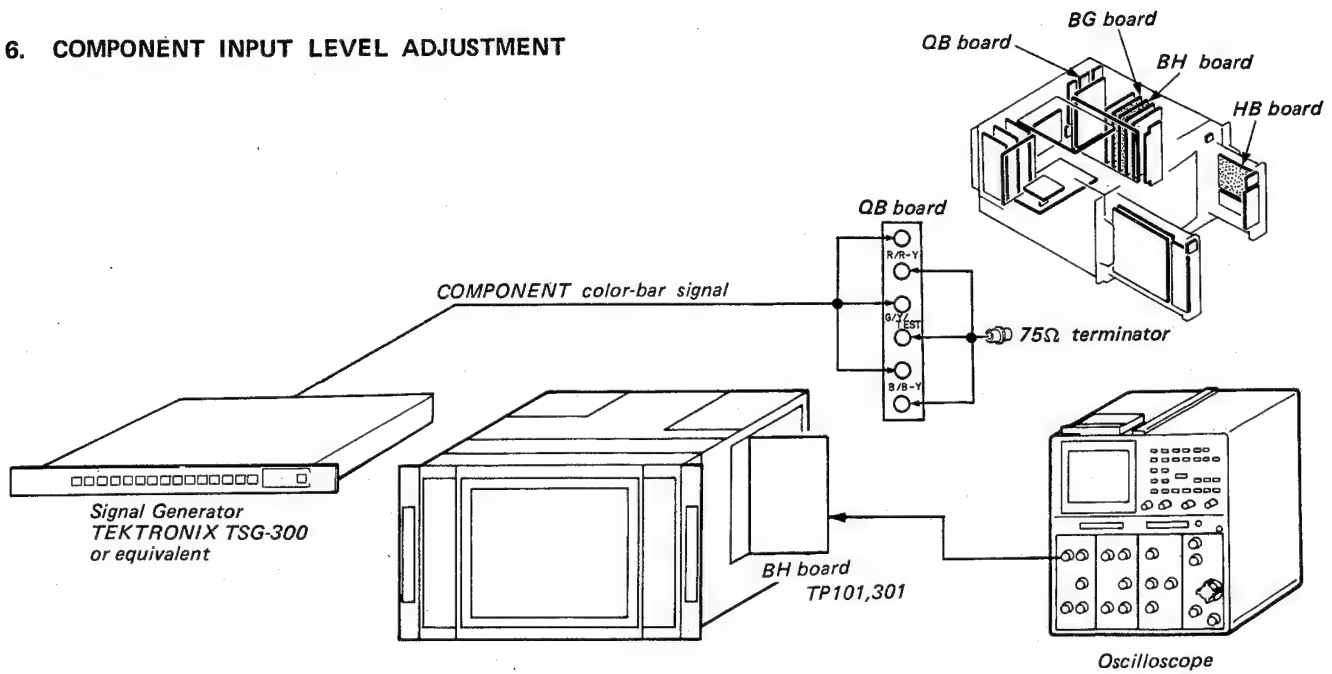
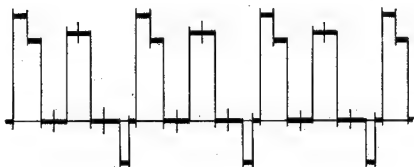

Fig. 6-1
Fig. 6-2
- Complete the connections as shown in Fig. 6-1.
- INPUT selector B (FRONT PANEL (R))
- Adjust RV21 of BG board so that the output waveform becomes flat. (Fig. 6-2)